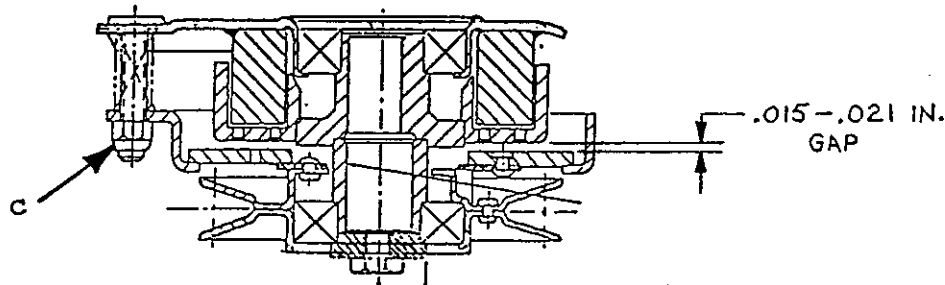

Fig. 10 Electric Clutch Adjustment
- c. Place .015 - .021 inch feeler gauge through each of the three clutch gap holes. If gap exceeds this range, tighten the three adjusting nuts until the proper gap is obtained. See Figure 10.